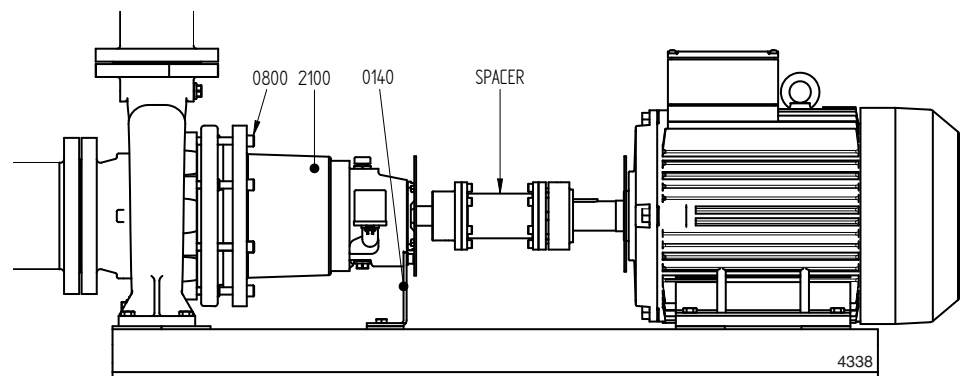

Figure 9: Back-Pull-Out principle.
- 3 Loosen the bracket support (0140) from the base plate, see figure 9.
- 6 Remove the coupling half from the pump shaft and remove the coupling key (2210).